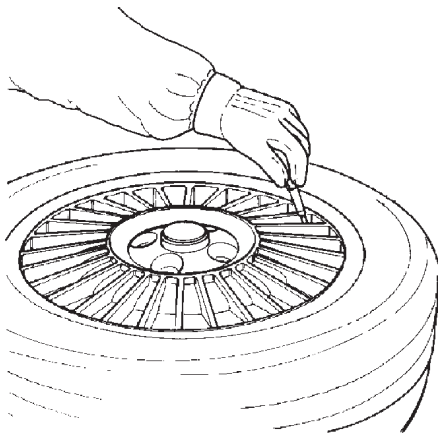

Fig. 4.1-1
**A.** Remove all wheel-weights from the rim. Remove the valve stem or valve stem core and deflate the tire (Fig.4.1-1).